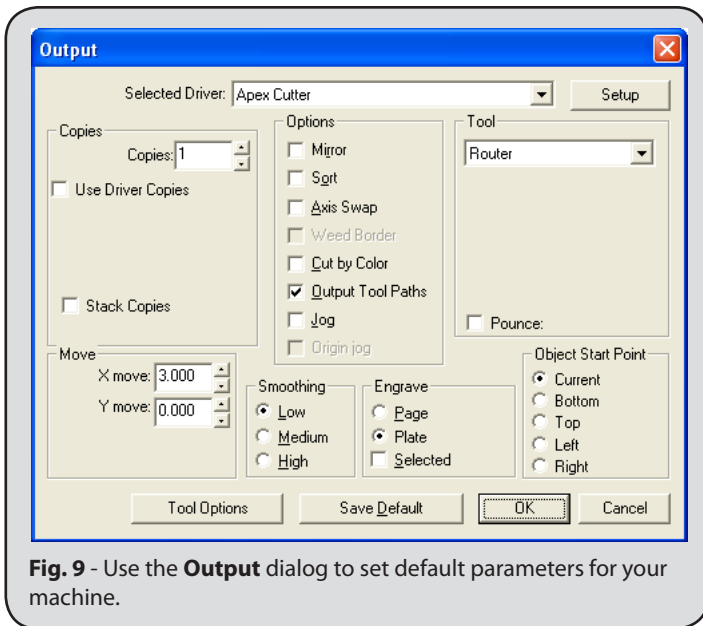

Fig. 9 - Use the **Output** dialog to set default parameters for your machine.
3. From the **Engrave** menu, choose **Engraving Defaults**. The **Output** dialog will open (Fig. 9).